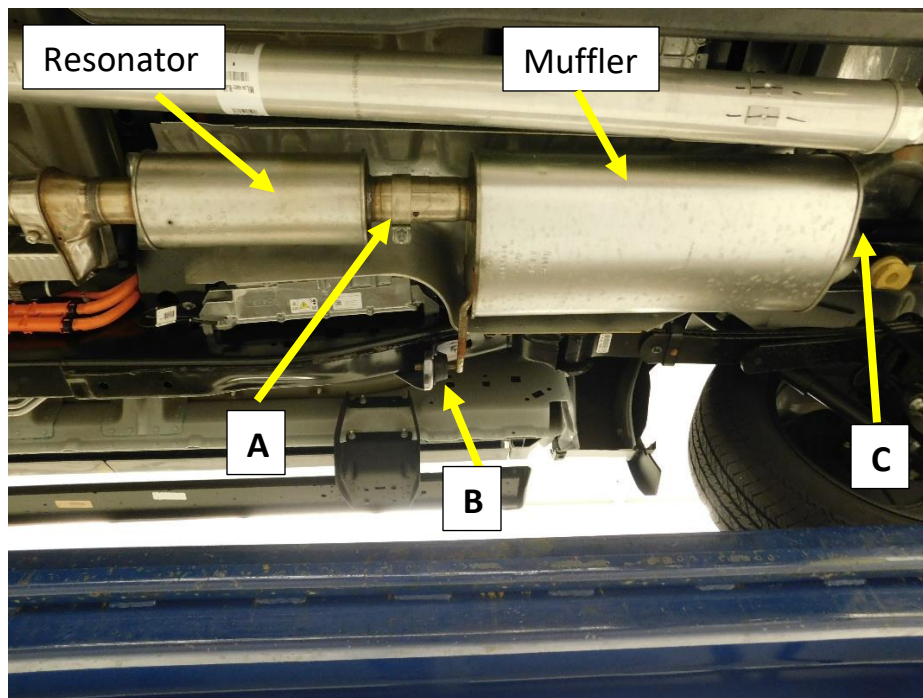

Figure 6
- Loosen the clamp at the slip joint between the muffler and the resonator (A). Fig. 6
- Remove the (x3) bolts at the muffler hanger on the frame rail (B). Fig. 6
- Remove the bolt from the muffler hanger over the muffler and remove the hanger from the cross brace (C). Fig. 6